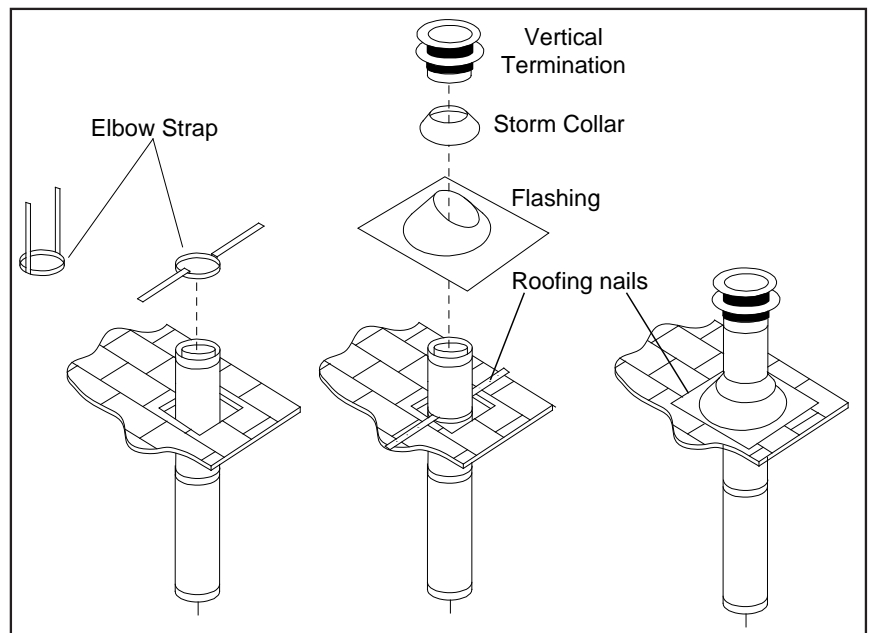

Figure 59: Vertical Vent Termination
- STEP 6.** Once the pipe sections have been joined, and run up through the hole in the roof, slip an elbow strap over the exposed sections, bend the support straps outwards, and push the elbow strap down to the roof level, as shown in Figure 59. Tighten the clamp around the pipe section. Use a level to make sure the pipe is truly vertical. With roofing nails, secure the support straps to the roof. Seal the nails holes heads with non-hardening mastic. Trim the excess length of the support straps that extend out beyond the edge of the flashing.
- STEP 9.** Slip the storm collar over the pipe, and push it down to the top of the roof flashing as shown in Figure 59. Use the non-hardening sealant around the joint between the pipe and the storm collar.